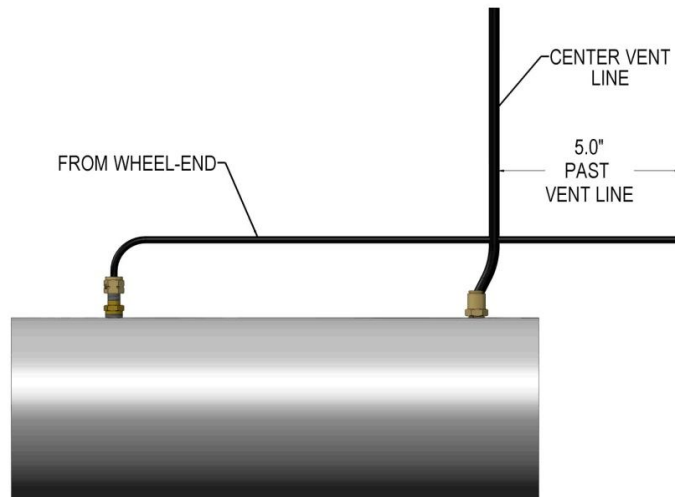

Figure 16
- Align hubcap gasket with bolt holes on hubcap and install bolts. Install all bolts and snug down until hubcap is seated against the hub. When all bolts are snug use a torque wrench to finish tightening bolts to correct specification. Tighten bolts using a star pattern as shown in figure 16. Torque bolts to 12-16 ft lbs. See Figure 15 and 17
- Using a tubing cutter, cut air line coming out of the closed pass through fitting on the axle 5" past the center of the axle vent hole. You want to make sure you have enough air line to attach to your tee fittings. See Figure 16